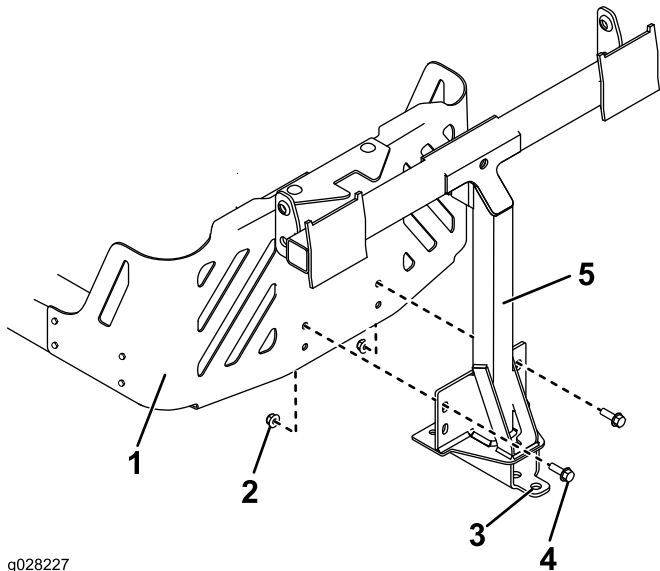

**Figure 12**
3. Secure the pivot frame to the bottom of the machine frame using 2 self-tapping screws (5/16 x 3/4 inch) as shown in Figure 12.